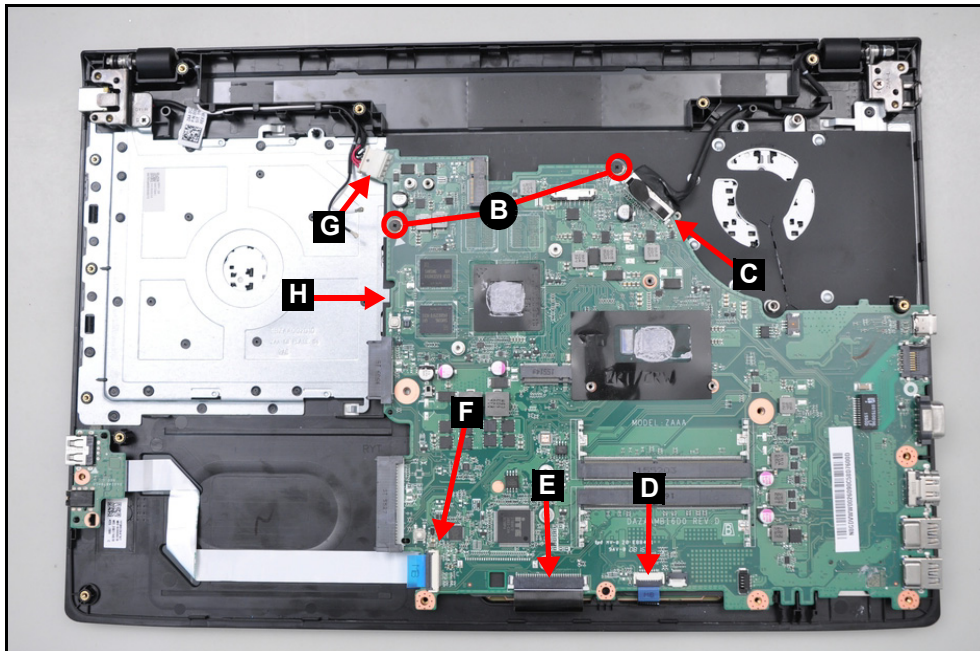

Figure 3-38. Mainboard Removal
3. Disconnect the eDP cable from the mainboard connector (C) (refer to Figure 3-38).
4. Disconnect the touchpad FPC from the mainboard connector (D) (refer to Figure 3-38).
5. Disconnect the keyboard FPC from the mainboard connector (E) (refer to Figure 3-38).
6. Disconnect the I/O board FFC from the mainboard connector (F) (refer to Figure 3-38).
7. Disconnect the DC-in cable from the mainboard connector (G) (refer to Figure 3-38).
8. Disconnect the keyboard backlight FPC from the mainboard connector (H) (for select models only) (refer to Figure 3-38).
9. Remove two (2) screws (B) securing the mainboard in place (Figure 3-38).